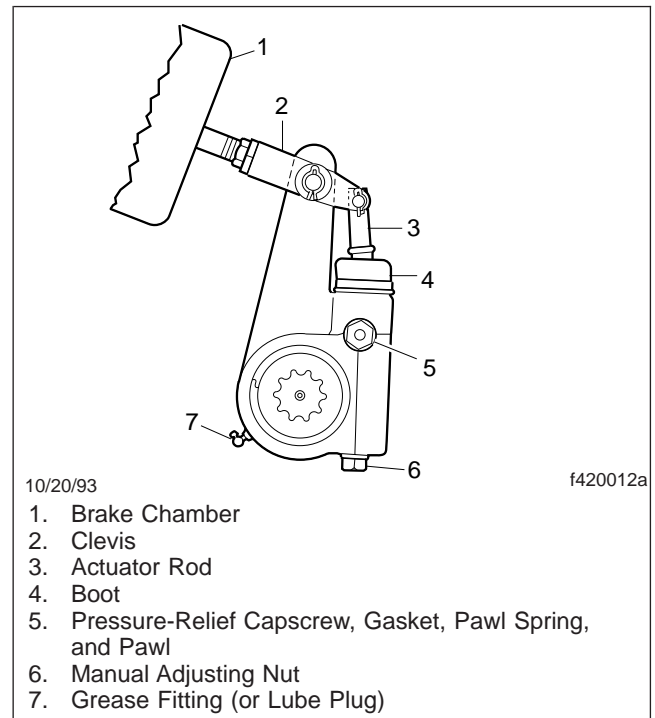

Fig. 5, Meritor Automatic Slack Adjuster
1. Lubricate the slack adjuster using high-temperature, waterproof grease, NLGI Grade 1, such as Texaco Thermotex EP No. 1, Shell Darina No. 1, Marathon 528 heavy-duty, Sunaplex No. 1 EP, Amdex No. 1 EP, or Philube B No. 1. It should be smooth-textured, corrosion-resistant grease, free of fillers and abrasives. Lubricate the slack adjuster through the grease fitting (Fig. 5, Ref. 7) until grease is forced out past the pressure-relief capscrew (Ref. 5), or past the gear splines around the inboard snap ring.
1. Remove the pressure-relief capscrew, pawl spring, and pawl. See **Fig. 5**.